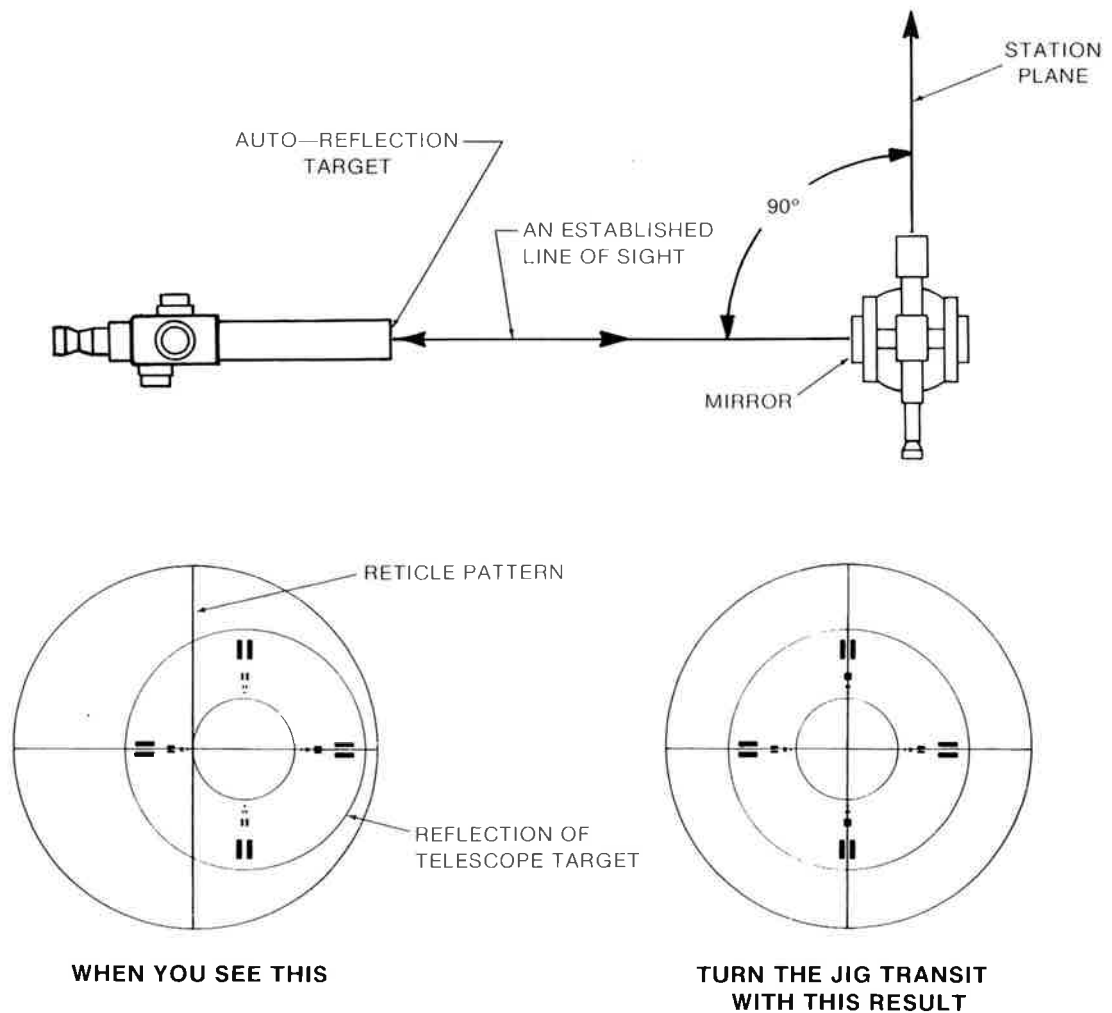

Figure 2-4. Auto-Reflection
5. Focus on the auto-reflection target (Figure 2-4), or use auto-collimation. Have your assistant turn the Jig Transit slowly with the azimuth tangent screw until the reflected vertical cross line (or your target) coincides with the vertical cross lines of the reference instrument.